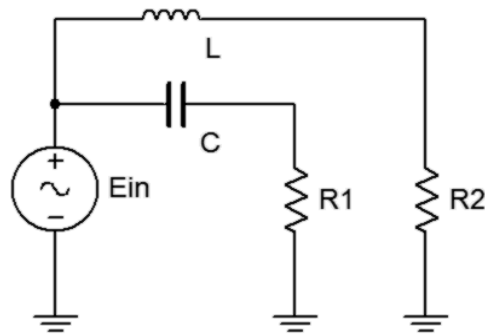

Figure 9.1
1. The circuit of Figure 9.1 can be thought of as a pair of frequency dependent voltage dividers. X_L increases with frequency, thus attenuating high frequency signals reaching R2. Similarly, X_C increases with a decrease in frequency, thus attenuating low frequency signals reaching R1. (R2 takes the place of the woofer while R1 takes the place of the tweeter). The crossover frequency is the frequency where $R1=X_C$ and $R2=X_L$ (normally the same frequency for both). Using $C=250$ nF, $L=100$ mH, and $R1=R2=620$ Ω , determine the crossover frequencies and record in Table 9.1.
3. Build the circuit of figure 9.1 using $R1=R2=620$ Ω , $L=100$ mH, and $C=250$ nF. Place one probe across the generator and another across output one (R1). Set the generator to a 2 V p-p sine wave at 50 Hz. Make sure that the *Bandwidth Limit* of the oscilloscope is engaged for both channels. This will reduce the signal noise and make for more accurate readings.